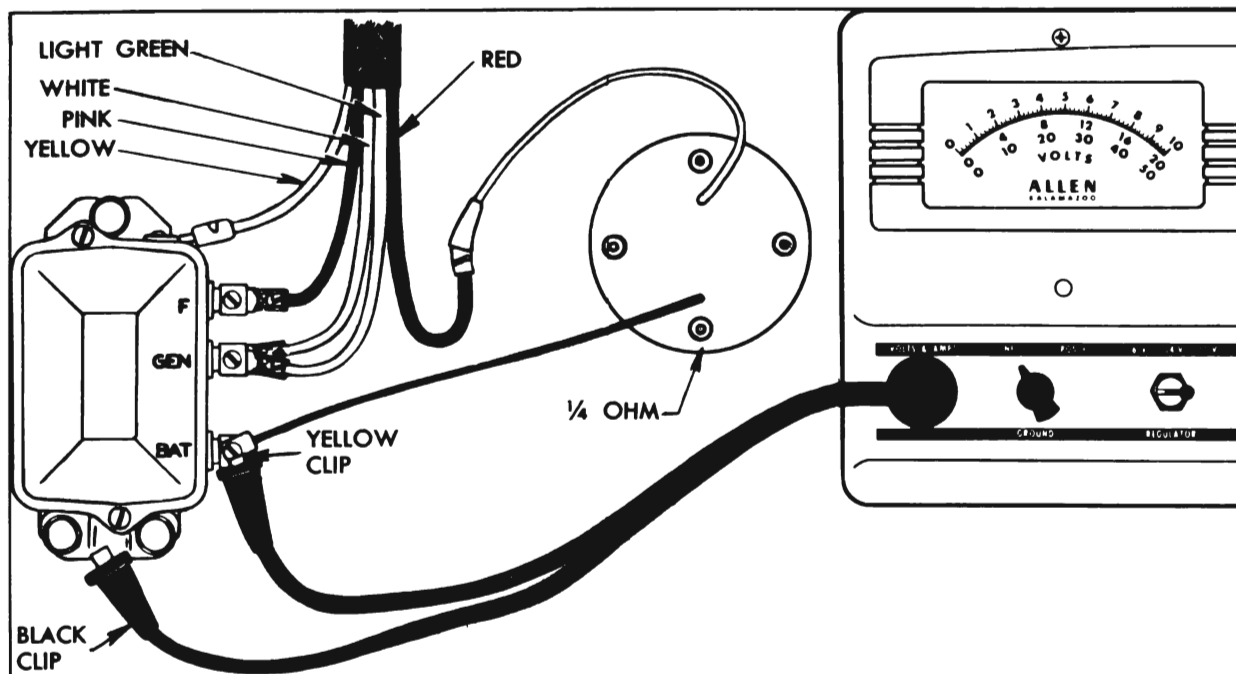

Figure 10-18—Voltage Regulator Test Connections—Allen Tester
12. Leave "SELECTOR" switch at "20 V" position, leave "GROUND" switch at "NEG" position, and turn "REGULATOR" switch to "12V" position. Connect YELLOW clip of voltmeter lead to regulator terminal marked "BAT" and leave BLACK clip connected to ground on base plate of regulator. See figure 10-18.